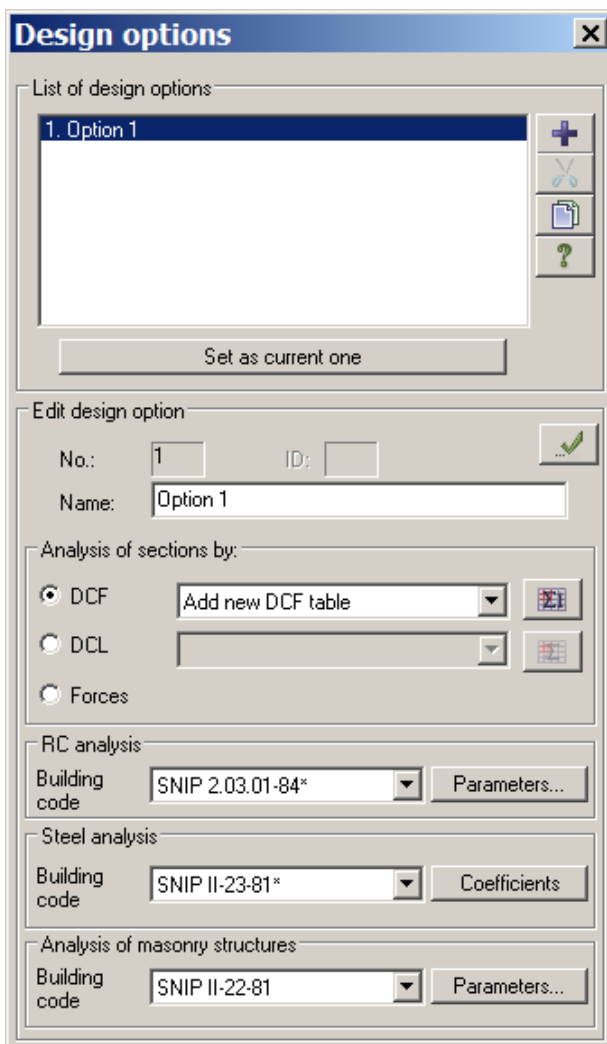

Figure 18.4 **Design options** dialog box
- ⇒ In the **Design options** dialog box (see Fig.18.4), define parameters for the first design option: